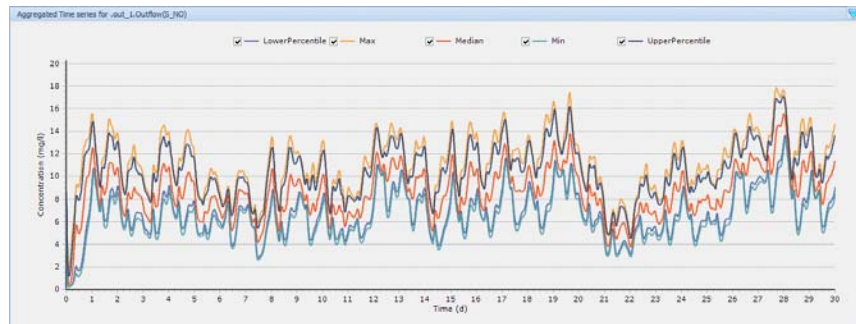

Figure 12.5 Aggregated Time series Criteria for Nitrate concentration in the effluent
- The output of the UA experiment is shown in Figure 12.3 to Figure 12.5.